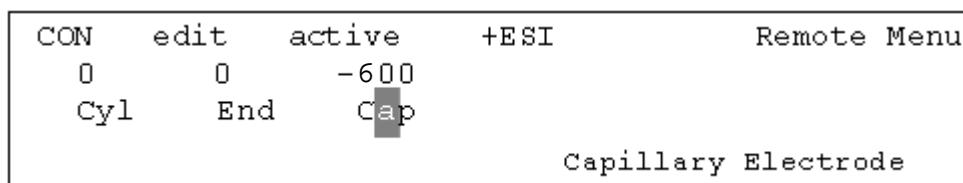

Figure 6-15 Select Cap for the Source Lens Current Reading
1. Use the arrow buttons below the Source Control Panel LCD display to position the display cursor on **Cap** (Figure 6-15).